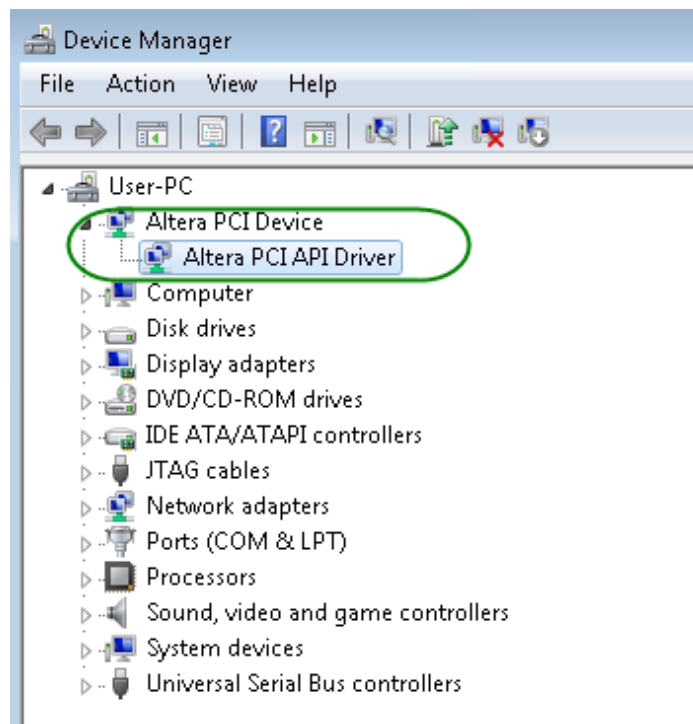

Figure 5-8 Altera PCI API Driver in Device Manager
10. Once the driver is successfully installed, users can see the **Altera PCI API Driver** under the device manager window, as shown in **Figure 5-8**.